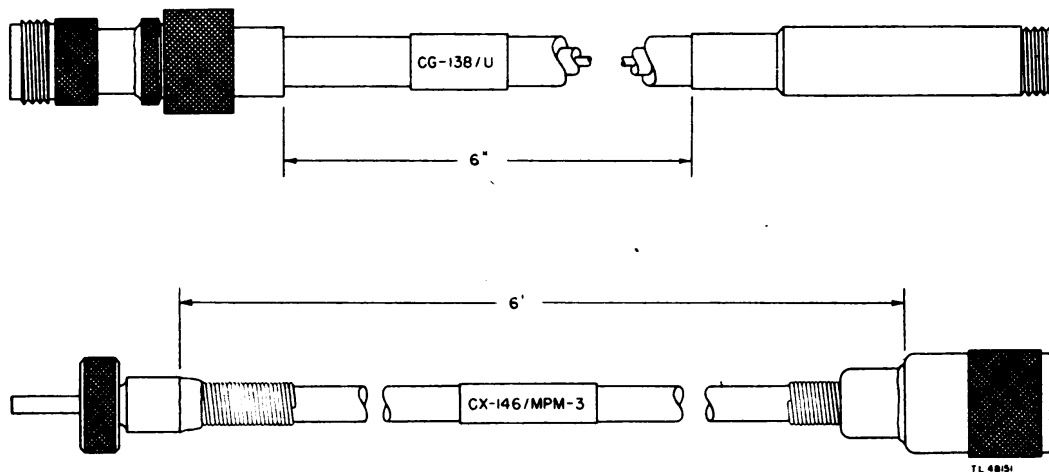

Figure 18. Cords CG-138 U and CX-146 MPM-3.
c. Cord CG-138/U. Cord CG-138, U (fig. 18) is a 6-inch section of Radio Frequency Cable RG-5/U fitted at one end with Radio Frequency Jack UG-20/U and at the other end with a male connector, Western Electric Company type D163597 or equal. The cord is used to connect the standing-wave detector of the transmit-receive (T/R) box of Radio Set SCR-545-A to Power Meter TS-125/AP.
d. Cord CX-146/MPM-3. Cord CX-146/MPM-3 (fig. 18) is a coaxial cable 6 feet long with Plug PL-259 on one end and a Howard B. Jones type P-201-D-3/8 plug on the other end. It is used to connect Signal Generator TS-155/UP to Range Unit BC-1053-A of Radio Set SCR-545-A.